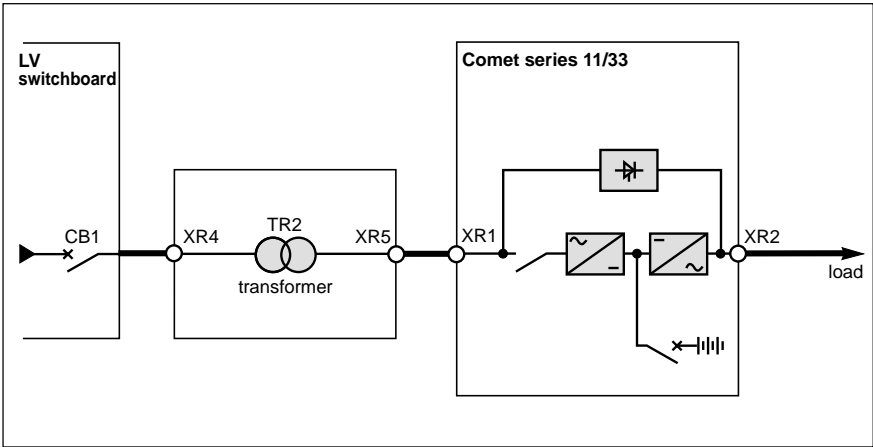

Fig. 26
- ▶ between the low voltage switchboard and the input power switch for **Comet series 11 and series 33** (see figure 26);